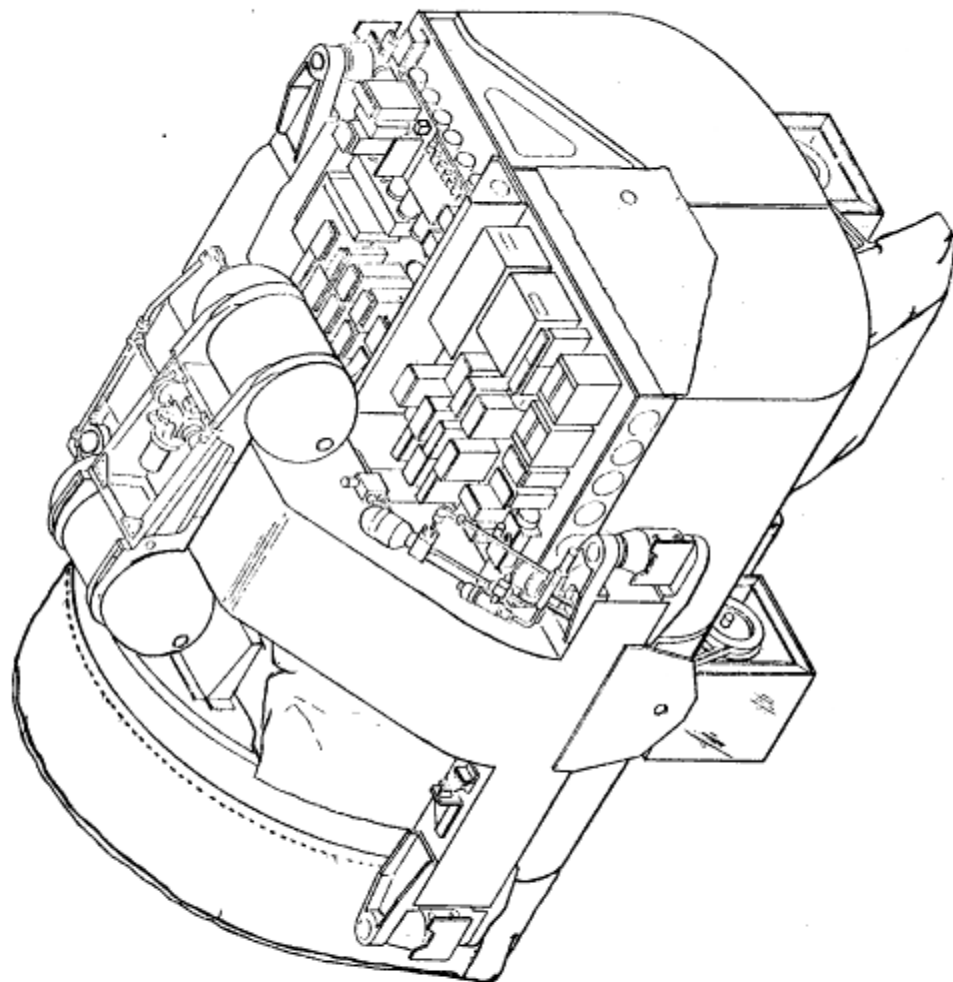

Figure 1-4. Q-Bay Package Type I, Physical Description
- 1-7. The package consists of two major assemblies -- a stable platform and a supporting frame assembly. See Figures 1-4 and 1-5. The stable platform is an aircraft type structure that contains both camera systems and associated subsystems, and the stabilization system. The stabilized platform is gimbal supported at its center of gravity through a gimbal support rod that is fixed to the frame assembly. The frame assembly is installed directly in the Q-Bay at four isolation shock mounts.